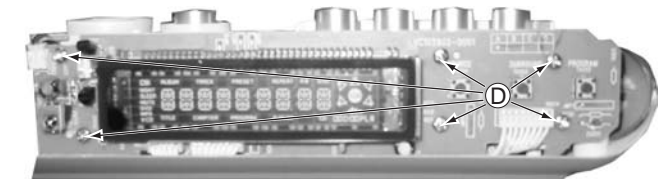

Figure 7
2) Loosen 6 screws "D" at the top of the key board 1 as shown in figure 7.